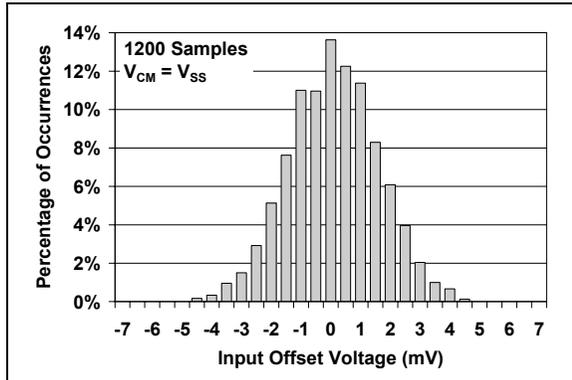

**FIGURE 1-3:** AC and DC Test Circuit for the Push-Pull Output Comparators.
**Electrical Specifications:** Unless otherwise indicated,  $V_{DD} = +1.6V$  to  $+5.5V$ ,  $V_{SS} = \text{GND}$ ,  $T_A = +25^{\circ}\text{C}$ ,  $V_{IN+} = V_{DD}/2$ ,  $V_{IN-} = V_{SS}$ , and  $R_L = 100\text{ k}\Omega$  to  $V_{DD}/2$  (Refer to Figure 1-3).
**Electrical Specifications:** Unless otherwise indicated,  $V_{DD} = +1.6V$  to  $+5.5V$ ,  $V_{SS} = GND$ ,  $T_A = +25^\circ C$ ,  $V_{IN+} = V_{DD}/2$ , Step = 200 mV, Overdrive = 100 mV, and  $C_L = 36$  pF (Refer to Figure 1-2 and Figure 1-3).